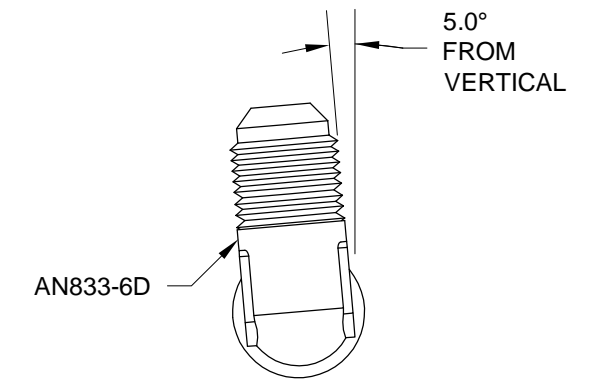
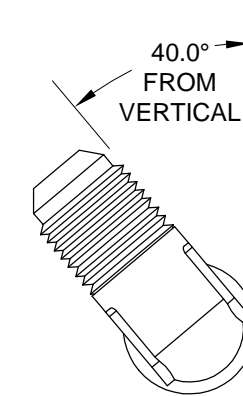

FIGURE 2: FLUID FITTING CLOCKING
FIGURE 3: FLUID FITTING CLOCKING
Step 1: Install the F-14109C Pump-Firewall Fuel Line between the ES-PX375-TC Fuel Pump and the AN833-6D elbow fitting on the firewall as shown in Figure 1. Refer to Figure 2 or Figure 3 for clocking.